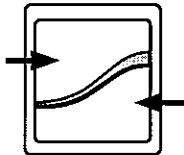

Fig. 2
2. Press and hold UP and DOWN buttons until the LED light turns amber then release buttons. (Fig. 2)